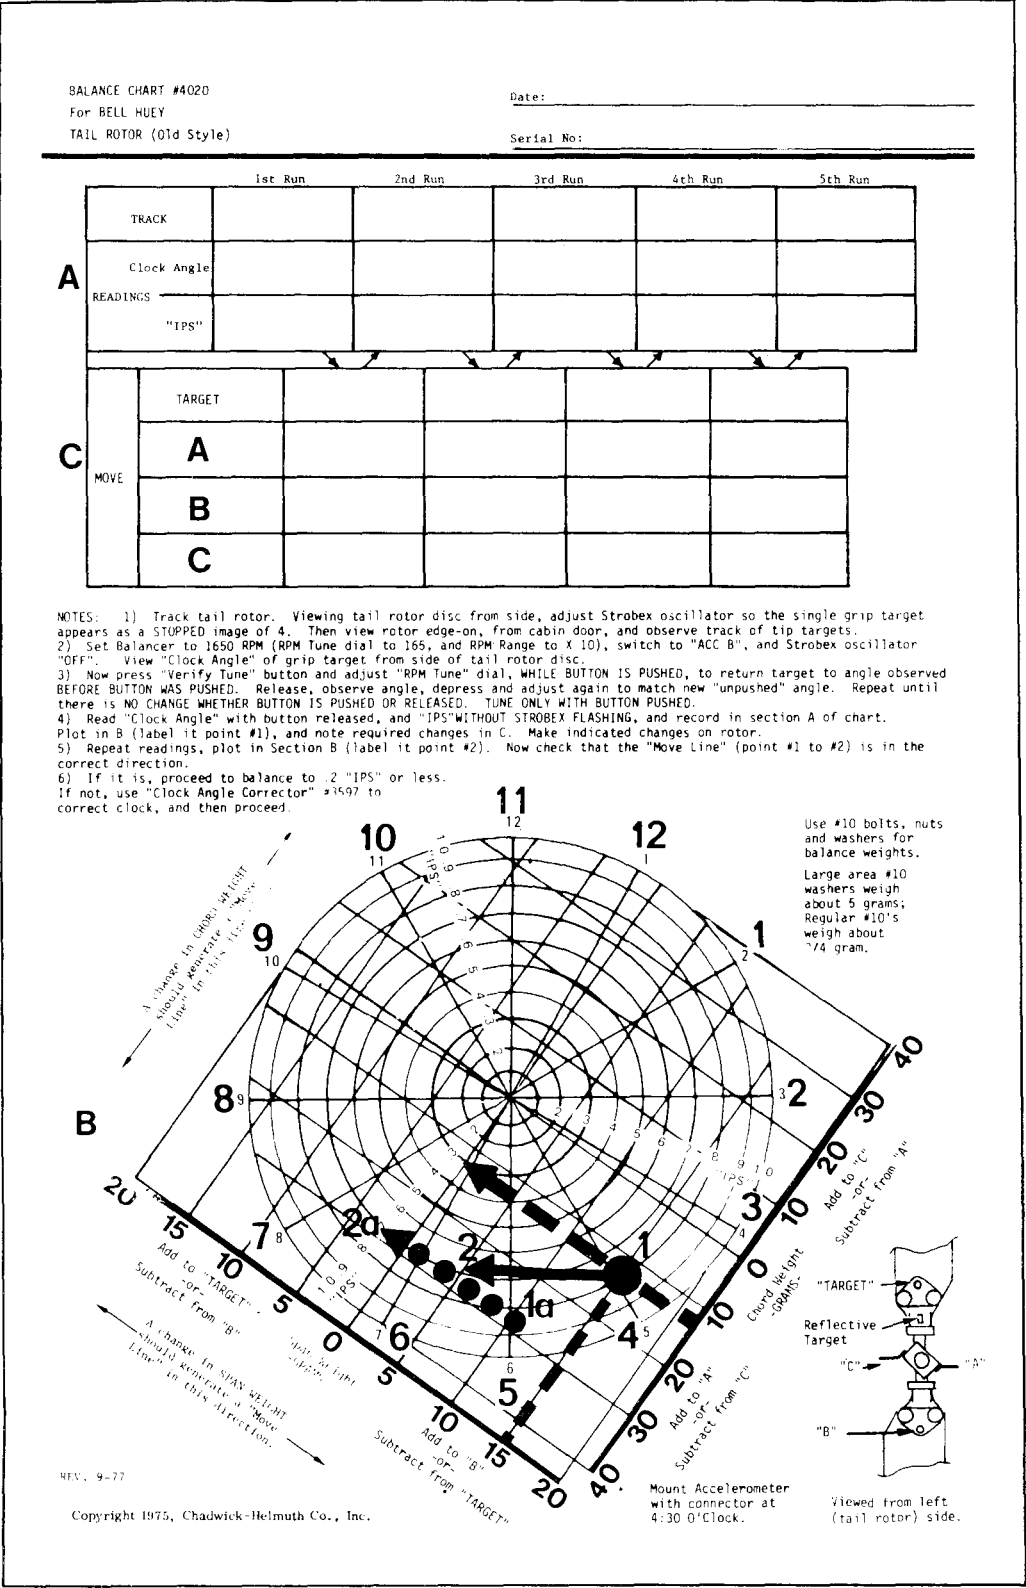
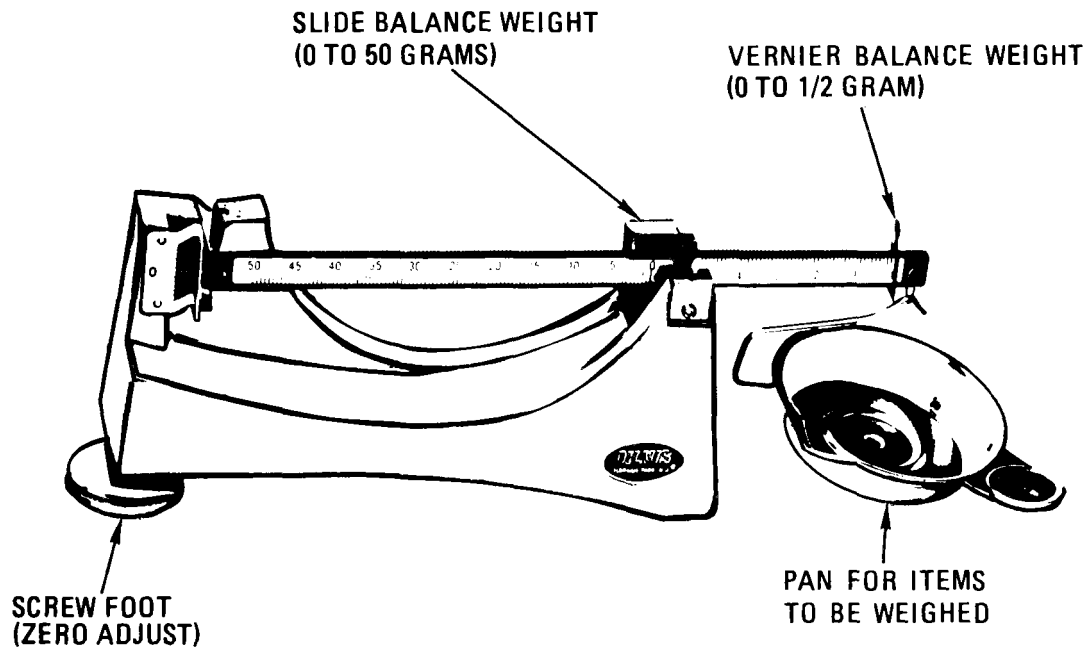

Figure 2-10. Reclocked Chart
Figure 2-11. Gram Scale
- (1) Refer to figure 2-10. If the chart and helicopter are not perfectly matched, the readings might be as follows:
- (2) Assume the same first reading of 5:00 o'clock and 0.8 IPS. Add the same 15 grams at B and nothing at A. This time our second reading is 6:30 o'clock and 0.7 IPS as indicated by point 2 and the move line is not parallel to the span arrow. If we track back to the chord axis (A and C) it indicates that a change was made there however, the change was not actually made. Therefore, there is a mismatch.
- (3) Use Clock Angle Corrector No. 3597 and place eyelet A on the first reading and align index A-C) in the direction the move line should have gone, and swing index A-B in the direction that the move line did go. We now see that we must subtract 1 hour from the clock numbers.
- (4) Then, when the two readings are plotted (1 and 2,) on the corrected chart, we see that the move line is now in the correct direction.
- (5) We can also see that too much weight was added to B because plot point 2 is beyond the zero line. This indicates we need to add about 25 grams to A, rather than the 14 originally shown. Thus, by subtracting about 4 from B, to which the 15 had been added, and adding 25 to A, the balance should be corrected.
**2-11. Use of Gram Scale.** The Gram Scale is set up as shown in figure 2-11. If small weights are to be weighed (less than 5 grams), it is important that it be set up out of the wind and very carefully balanced by the screw foot at the left end. The balancing is done with the pan attached and both the slide balance and the vernier balance at O. Small weights are measured using both the slide balance and vernier balance. Larger weights (5 grams or over) do not require the use of the vernier balance as the total range is a small percent of the weight being measured.